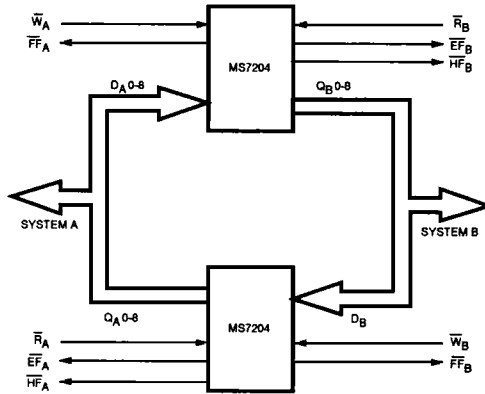

Figure 6. BiDirectional FIFO Mode
Data buffering between two systems can be achieved by pairing two FIFO arrays as shown in Figure 6. This allows each system to READ and WRITE shared data. The FULL FLAG (FF) must be monitored on the FIFO where WRITE ENABLE (W) is used and the EMPTY FLAG (EF) must be monitored on the FIFO where READ ENABLE (R) is used. Both Width Expansion and Depth Expansion Modes may be used in combination with Bidirectional Mode.